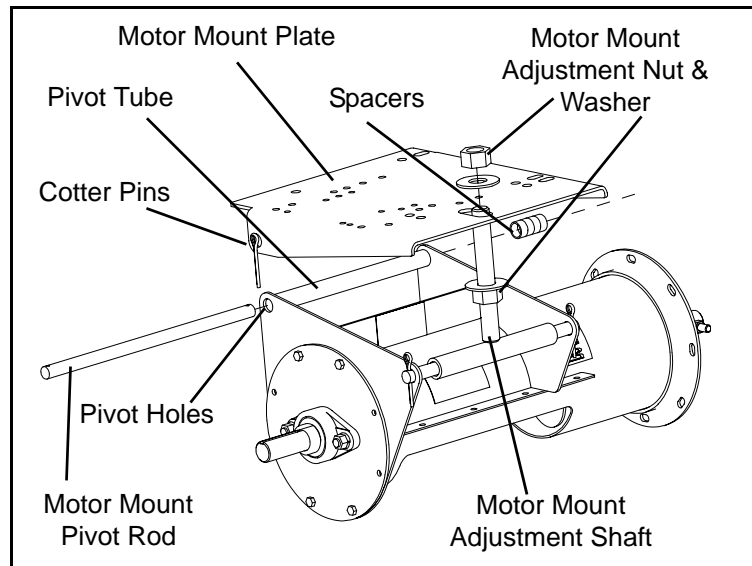

Figure 4F
1. Secure one (1) of the motor mount adjustment nuts and one (1) the motor mount adjustment washers approximately 3/4 of the way down the motor mount adjuster's threaded shaft.
2. Once the nut and washer is secure, slip the Motor Mount Plate over the adjuster and align the pivot holes with the pivot tube. *(See Figure 4F).*